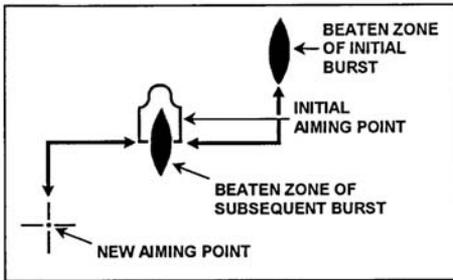

Figure 071-010-0006-8. Adjusted aiming point method
**b.** Adjustment of fire. Use the adjusted aiming point method to quickly adjust fires without making a sight adjustment. If the initial burst misses the target, rapidly select a new aiming point the same distance from the center of impact of the initial burst but in the opposite direction. Fire a second burst (figure 071-010-0006-8).